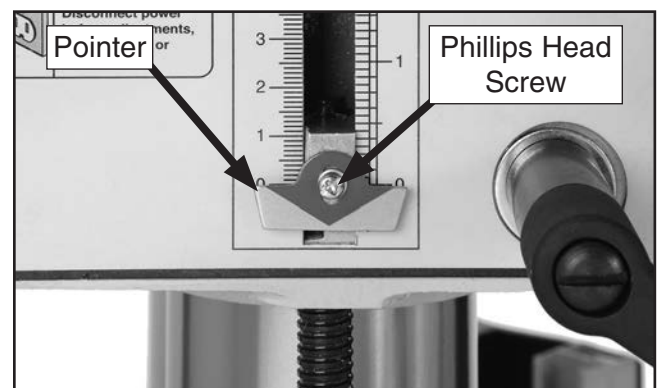

Figure 75. Depth stop calibrated.
1. Lower depth stop (see **Figure 75**) until pointer reaches bottom of its travel.
2. Loosen Phillips head screw shown in **Figure 75**, and position pointer so its upper edge aligns with zero, then re-tighten screw.